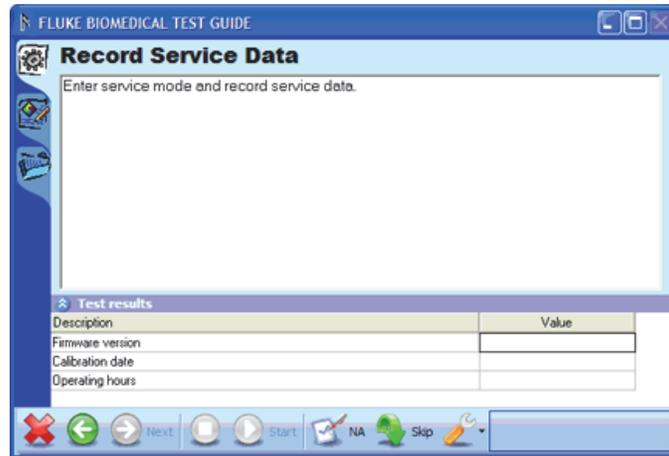

Figure 3-47. Preview of General List
- Click the **Abort** button (✖) to return to the test template. When asked if you want to abort the test template, you must click the **Yes** button. The Test Guide for the numerical list will be displayed as shown in Figure 3-47.